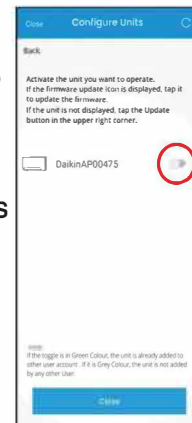

Fig.1
- 8) Open the Home screen of the DAIKIN AC MANAGER 2.0 MOBILE APP. The air conditioner will be listed there (Fig.1).